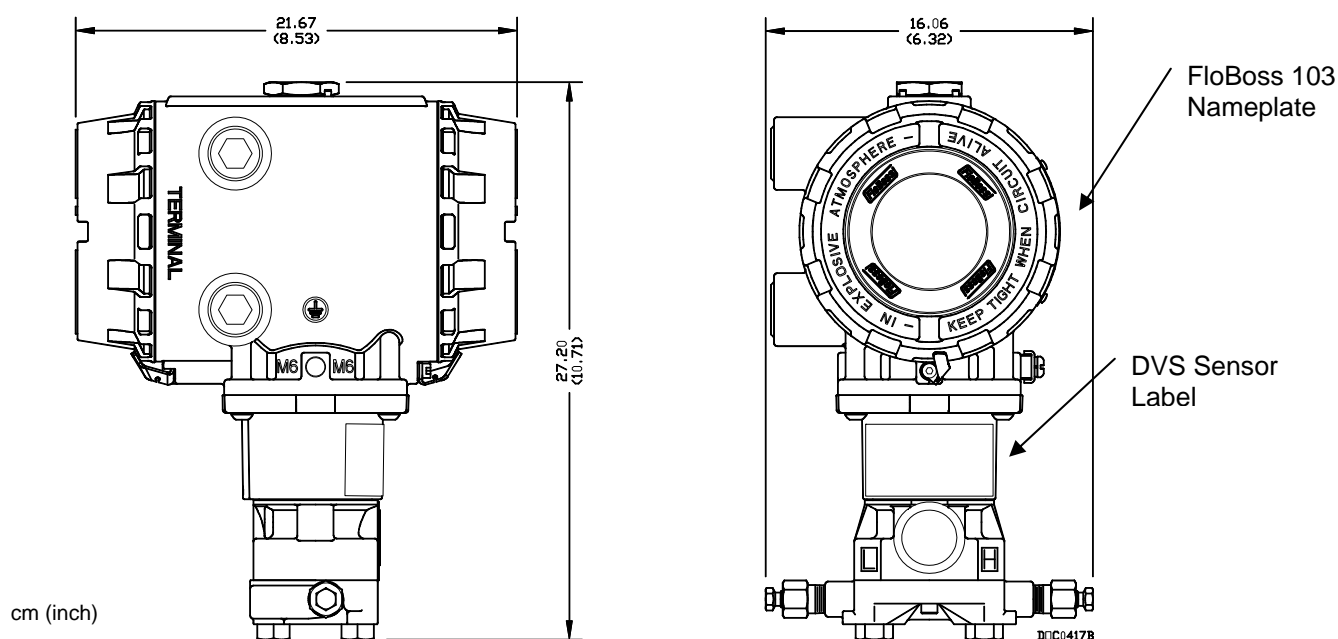

Figure 8. FloBoss 103 Dimensions
2. Find a suitable location for the FloBoss 103. When choosing an installation site, be sure to check all clearances. Provide adequate clearance for wiring and service. The optional LCD should be visible and accessible for the on-site operator. See *Figure 8*.